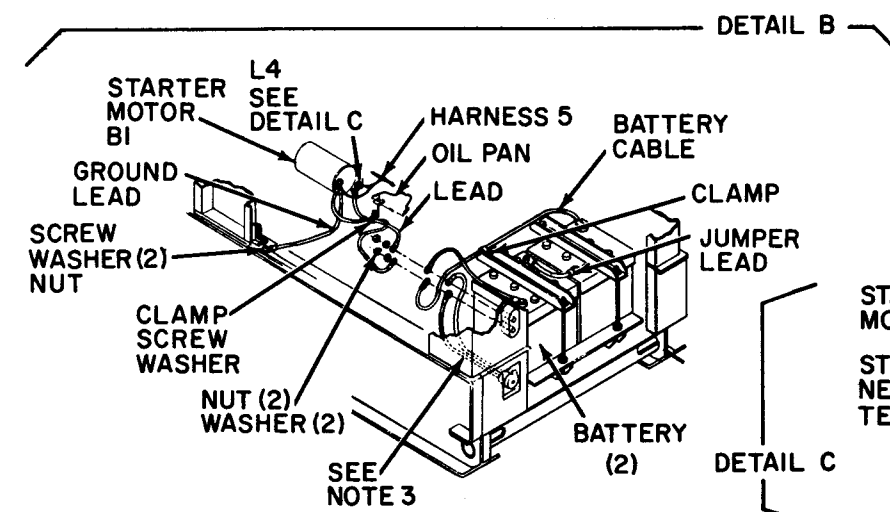

Figure 3-19. Wiring harnesses 400 hertz generator sets, removal and installation (sheet 5 of 5)
g. INSTALLATION. Refer to figure 3-18 and install wiring harnesses on 50/60 hertz generator sets or figure 3-19 and install wiring harnesses on 400 hertz generator sets. Pay particular attention to the following: